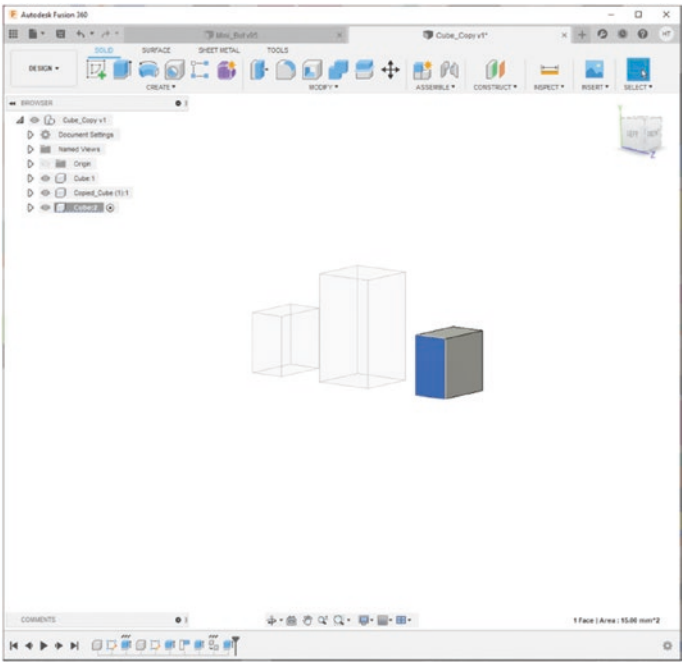

Figure 8-8. *Select a face on a cube*
1. Using the same example from the previous section, select one of the faces on a cube. See Figure 8-8.